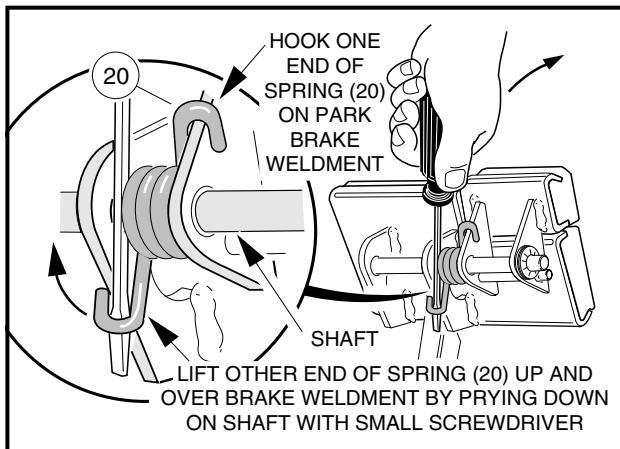

FIGURE 6-23
4. Install the two bushings (2) in the park brake pedal and position the park brake pedal on the shaft on the brake pedal assembly weldment (**Figure 6-22**). Then attach the ends of the spring to the park brake pedal and to the brake pedal weldment as shown (**See Figure 6-23**).